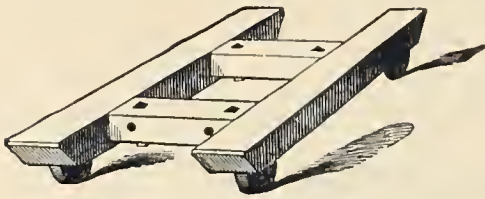

Fig. 508. — Block-Truck.
*The Block-Truck*, represented by *Fig. 508*, is a solid framework placed on low wheels, intended for moving, for short distances, cases, pianos, and heavy articles difficult to raise from the floor.